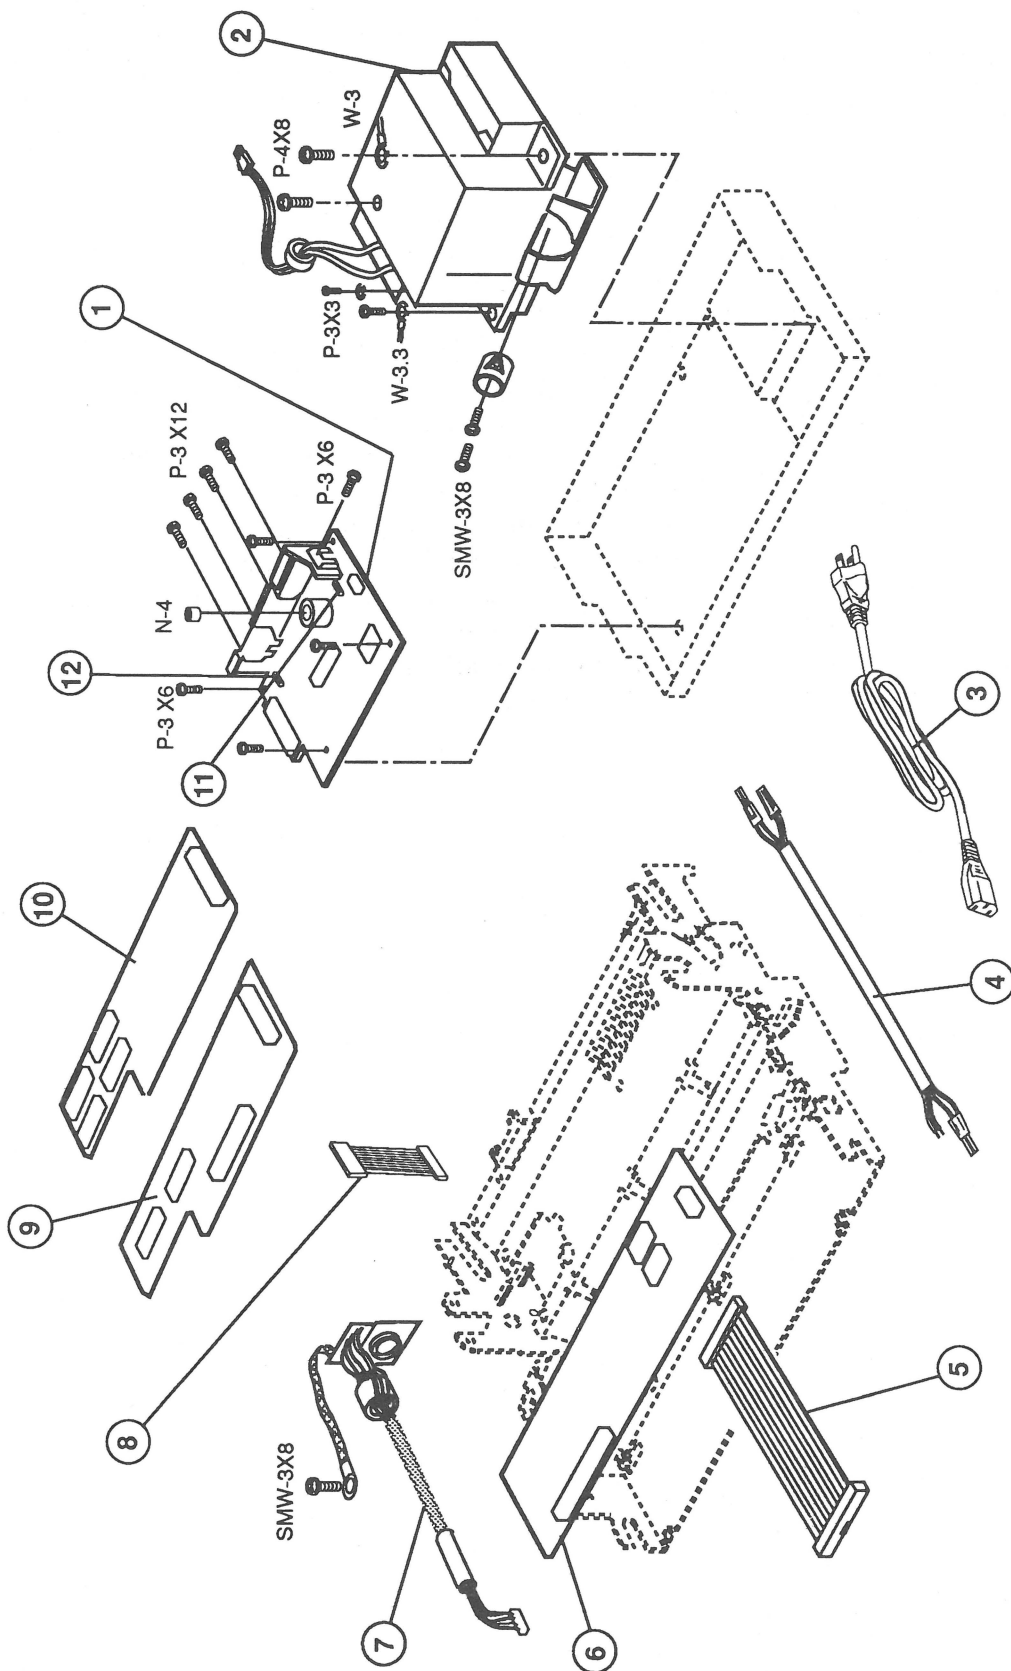

Figure 7
□ POWER SUPPLY & MAIN CPU PCB (Figure 7)
Note: The following screws, e-clips, etc., are used in the parts shown in Figure 7: